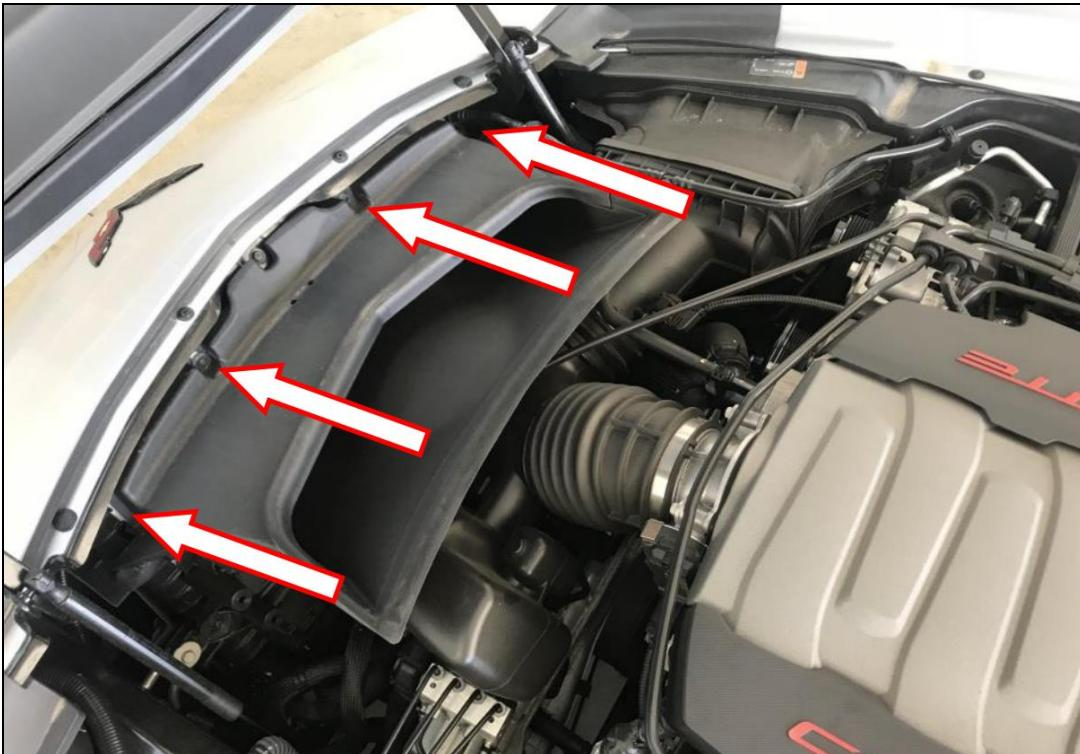

Figure 7 – Intake Air Tube Removal 1
2. Remove the factory radiator duct by removing the (x4) screws securing it (Figure 7)